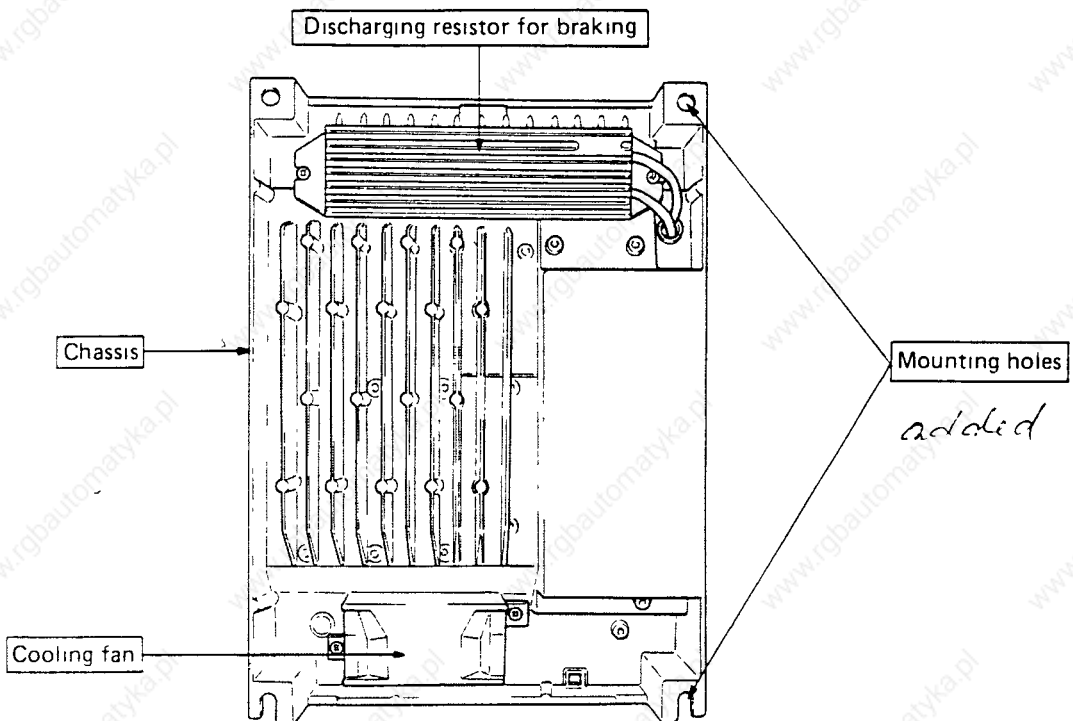

Fig. 2 Rear View of Inverter
- (4) Repeated breaking operation, may cause, the rear mounted discharging break resistor to reach a maximum temperature of 150°C. Therefore mount the inverter to an incombustible surface such as concrete or metal. (See Fig. 2.)
- (5) The FR-K series inverters are available in two types of protective constructions according to the output rating. Since the two types vary in the maximum allowable ambient temperature, caution should be exercised.